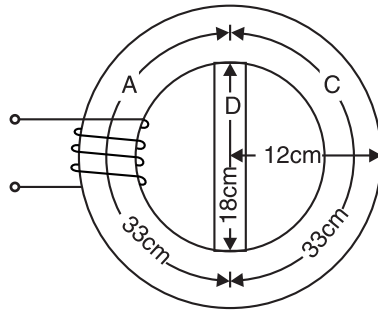
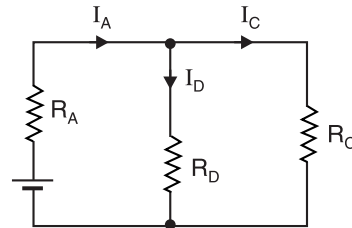

Fig. 8.33
Fig. 8.34
**Solution.** The conditions of the problem lead to the magnetic circuit shown in Fig. 8.33. The equivalent electrical circuit is shown in Fig. 8.34. Note that m.m.f. is shown as a battery and reluctances as resistances. Referring to Fig. 8.33, the flux paths  $D$  and  $C$  are in parallel. Therefore, total AT required is equal to AT for path  $A$  plus AT for path  $C$  or path  $D$ .